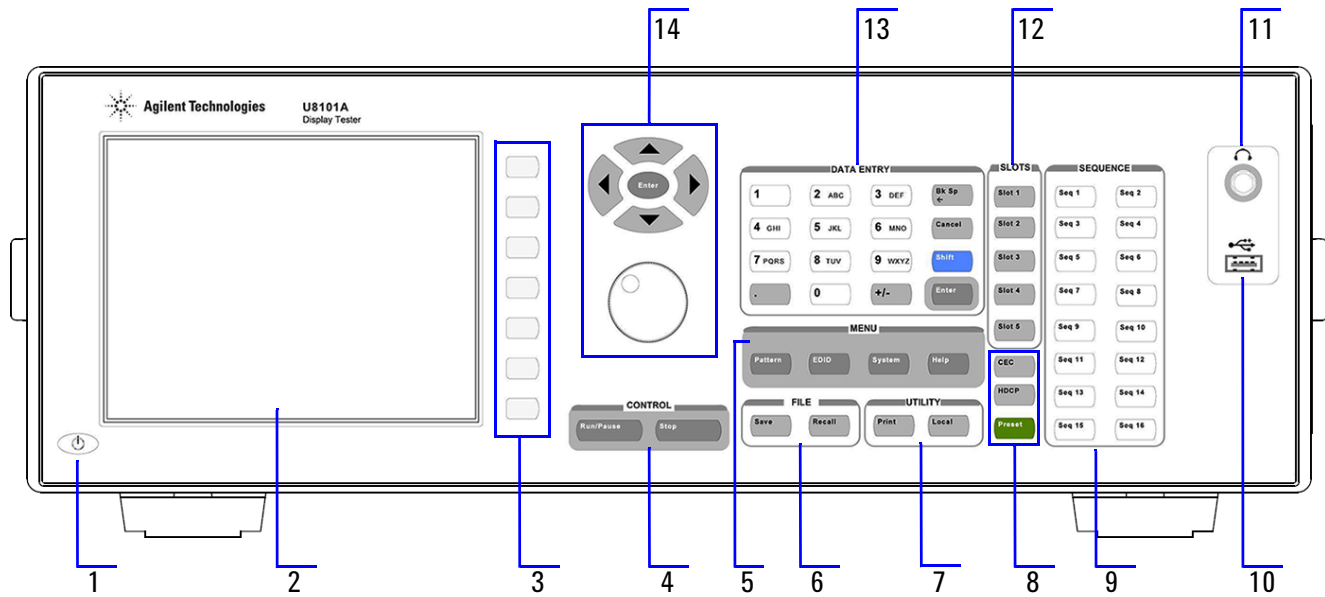

Figure 2-1 U8101A front panel
- Figure 2-1 U8101A front panel 8